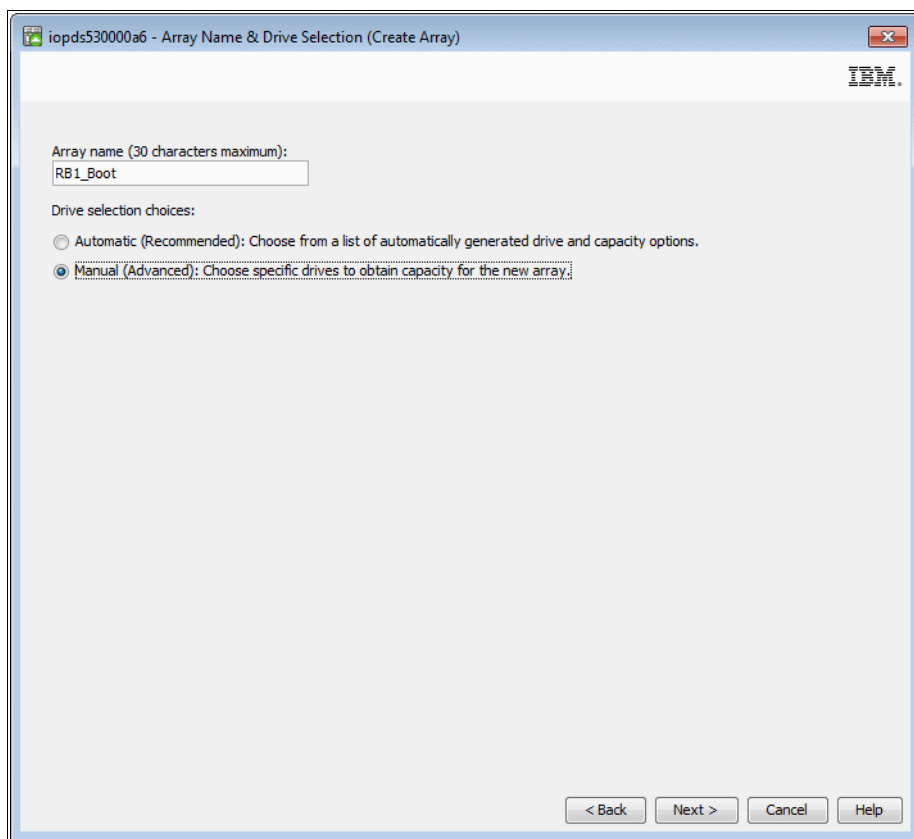

Figure 2-50 Creation of the name for the array
3. You are also asked to either select the disks to be used or let the system select them for you. If you select **Automatic**, it will select the disks in consecutive order; it is fine if you only have one expansion tray. If you have more than one tray, you might want the disks to be spread across expansion trays. This method is called enclosure protection, as shown in Figure 2-50. For this installation, we select **Manual** to explore the various options of the manual configuration.